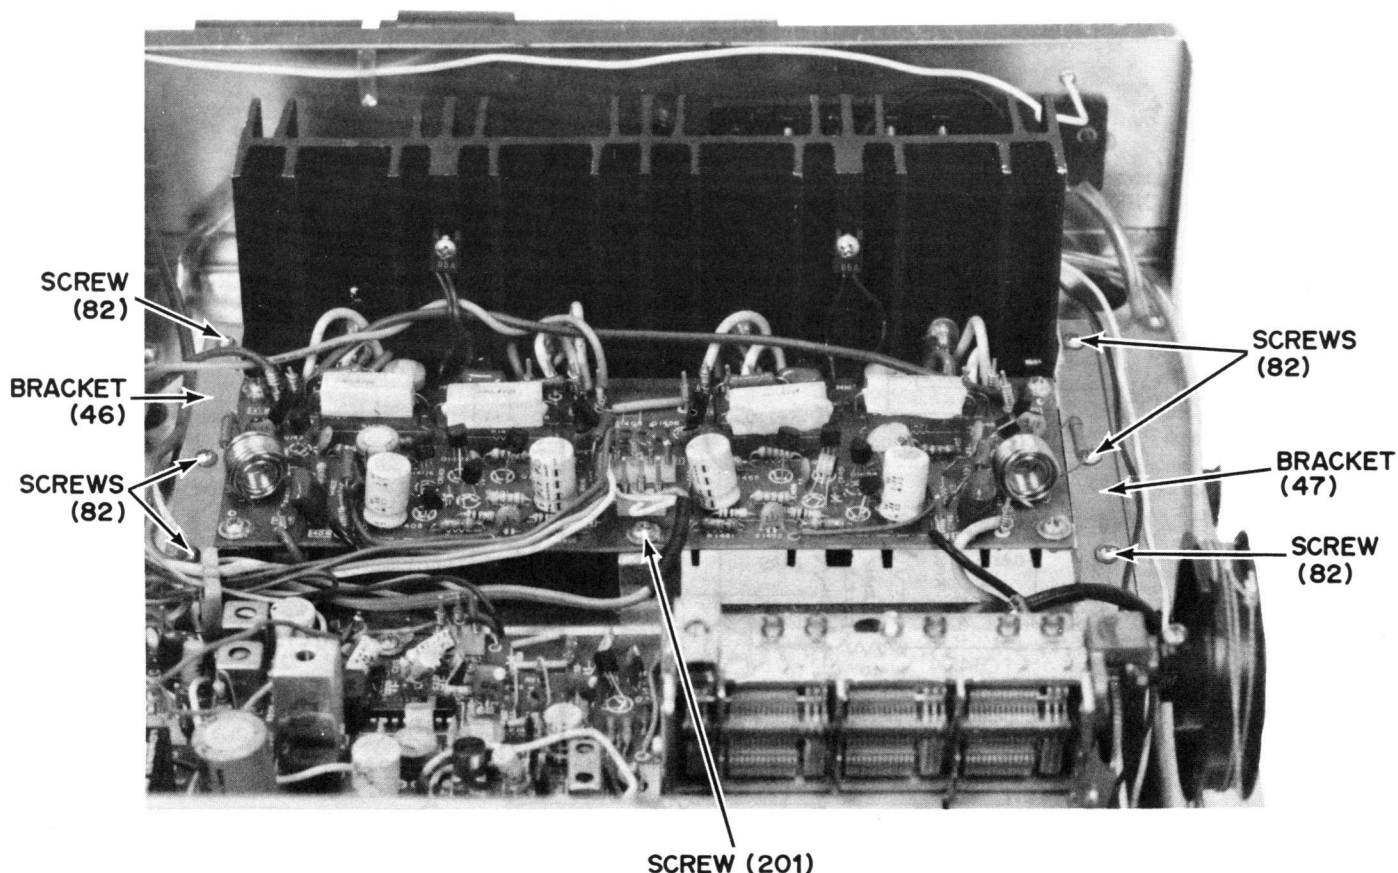

FIGURE 7 – MODEL MC7051 – POWER OUTPUT AMPLIFIER
Replacement of output transistors can be made easier by removing the output amplifier circuit board (95) and heat sink (10) as follows (See Figure 7):
1. Remove three screws (82) in mounting bracket (46) and another three screws (82) in bracket (47).
2. Remove one screw (88) mounting output amplifier circuit board (95).